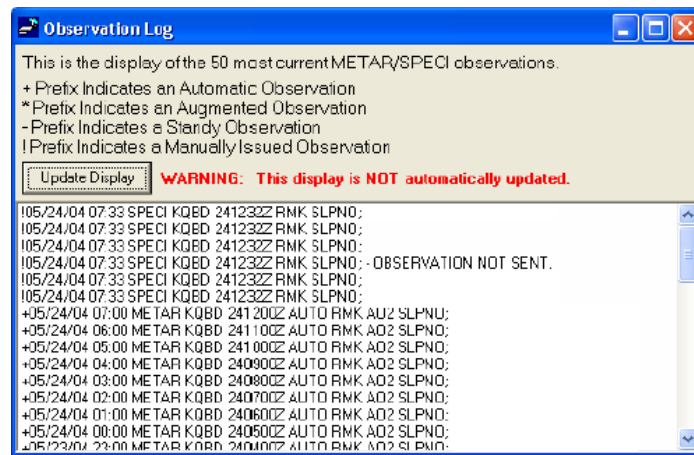

Figure 28. Dial Up Signal Monitor – Observation Log
- (2) Verify DUSM has detected and sent the edited observation (see Figure 28).